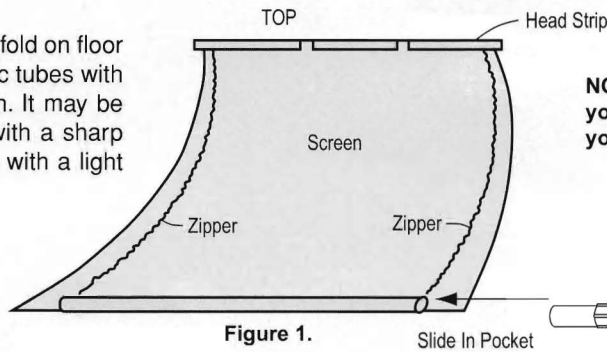

Figure 1.
1. Remove Zip-Roll Screen from carton and unfold on floor with head strip on top. Assemble bottom plastic tubes with connectors; slide into bottom pocket of screen. It may be necessary to ream the tubes or connectors with a sharp knife to allow for easier assembly. Lubricating with a light oil will also help. Refer to Figure 1.